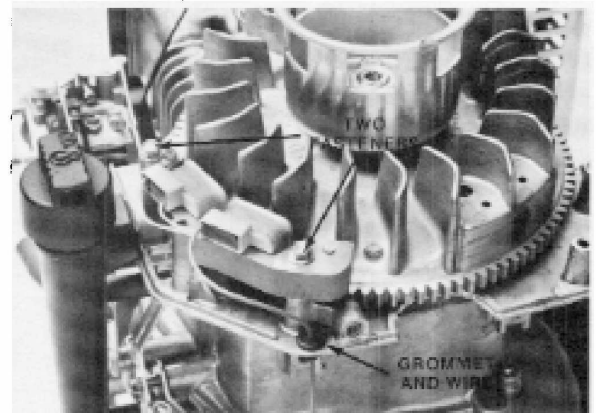

Figure 4-64
1. If the engine is electric start, mount the alternator coil on its bosses as shown in Fig. 4-64.